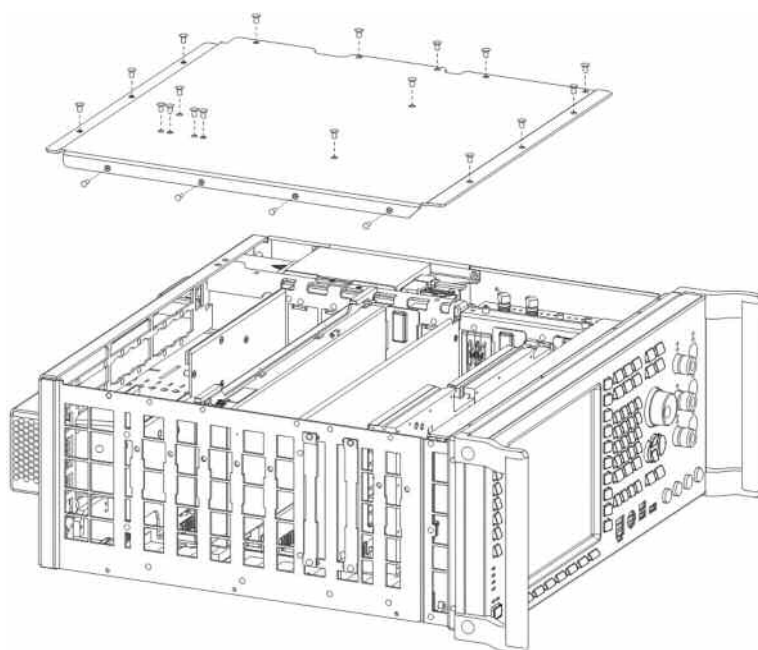

Figure 4 Removing the cover
- g Undo the screws at the cover and lift it off (see Figure 4).